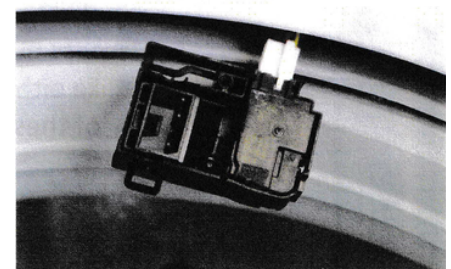

FIGURE 3
5. Slide the lock assembly from under the top cover and disconnect the harness connector from the lock assembly. *See Figure 3.*